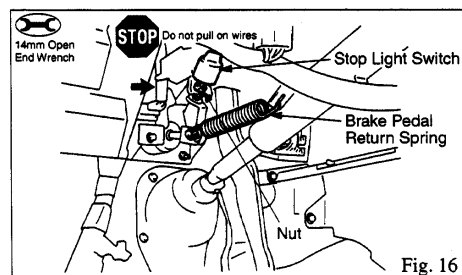

Fig. 16
(17) Remove the brake pedal return spring. (Fig. 16)
(18) Remove the stop light switch. (1 Nut) (Fig. 16)
(5) Install the stop light switch. (Refer to Fig. 16) (Fig. 27)